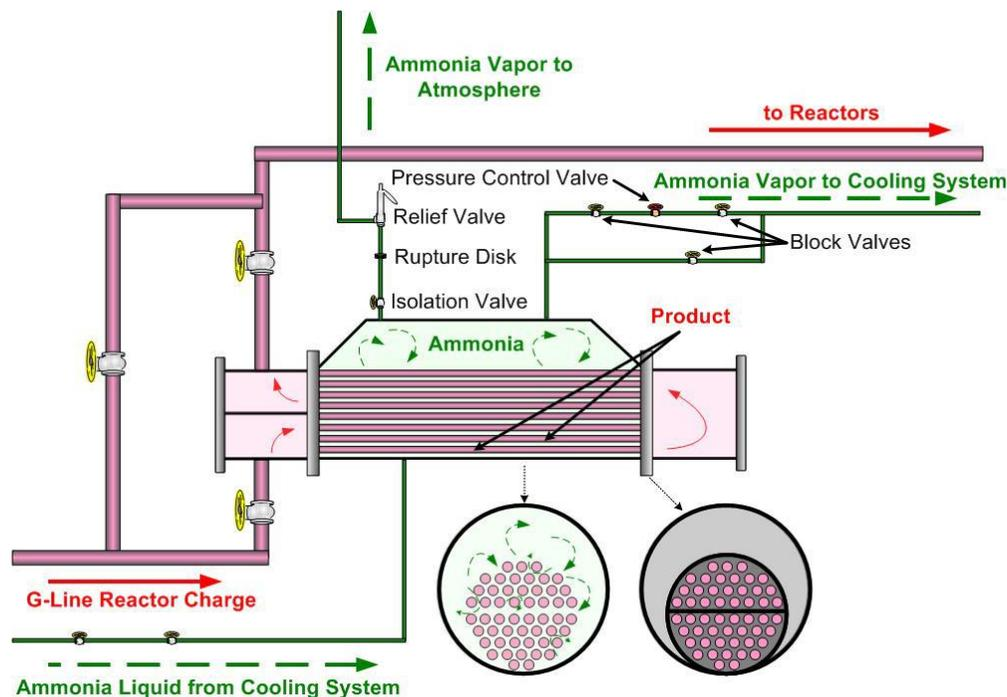

Figure 4. Ammonia Heat Exchanger
15. On June 10, 2008 at 4:30 PM, maintenance workers replaced a burst rupture disk associated with a heat exchanger at The Goodyear Tire and Rubber Company facility in Houston, Texas. In their reactor process line, ammonia is used as the coolant within heat exchangers to regulate temperature. Ammonia pressure within the heat exchanger is maintained at 150 psig. "Each heat exchanger is equipped with a rupture disk in series with a pressure relief valve (both set at 300 psig) to protect the heat exchanger from excessive pressure. The relief system vents ammonia vapor through the roof to the atmosphere" (Figure 4) (U.S. Chemical Safety Board, 2011, p. 4).